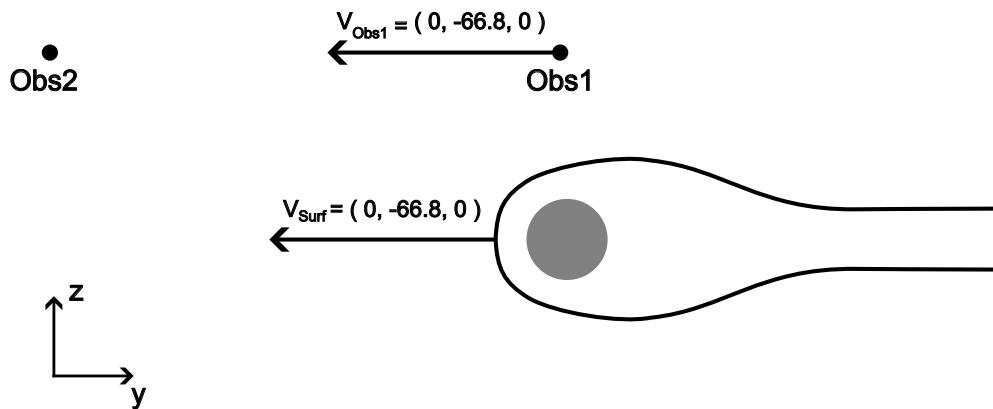

Fig. 1.3: FWH surface and observer motions - FWH (quiescent medium) frame of reference
When the FWH equations are derived, we make an important assumption - that of a 'quiescent medium' (i.e. still air, with a free-stream velocity of zero). Clearly, with a freestream velocity of  $(0, 66.8, 0)$ , the flow in our CFD simulation does not satisfy this condition. In order to use the FWH solver, we therefore have to perform a co-ordinate transformation, as in Fig. 1.3. In the `run_fwh` utility, this co-ordinate transformation is performed automatically, whereas in the *fwh python module* we set up the surface and observer motions through the FWH quiescent medium manually.
The centre of the cylinder in the CFD mesh is at (0.25,0,0), and we want *Obs1* to always be (0,0,20) metres away from the cylinder centre during the FWH simulation. Since the cylinder ‘travels with’ the FWH surface (see Fig. 1.3), we can therefore say that the motion of the cylinder centre in the FWH co-ordinate frame is  $\mathbf{x}(t) = ((0.25, 0, 0) + (0, 0, 20)) + \mathbf{V}_{surf} t$ . We therefore set the motion of *Obs1* to be  $\mathbf{x}(t) = (0.25, 0, 20) + \mathbf{V}_{surf} t$ . We set *Obs2* to be stationary in the FWH reference frame, and to be coincident with *Obs1* at  $t=2.5$ . We save the outputs to a json file called *FWH\_data.json*.
*Obs1* moves through the FWH medium at a constant displacement from the cylinder centre (see Fig. 1.3). We see from our post-processing that the noise experienced by *Obs1* is dominated by a constant 10 Hz component, which is the shedding frequency of the cylinder. Various harmonics of the 10 Hz signal are present in the power spectral density plot for *Obs1*.